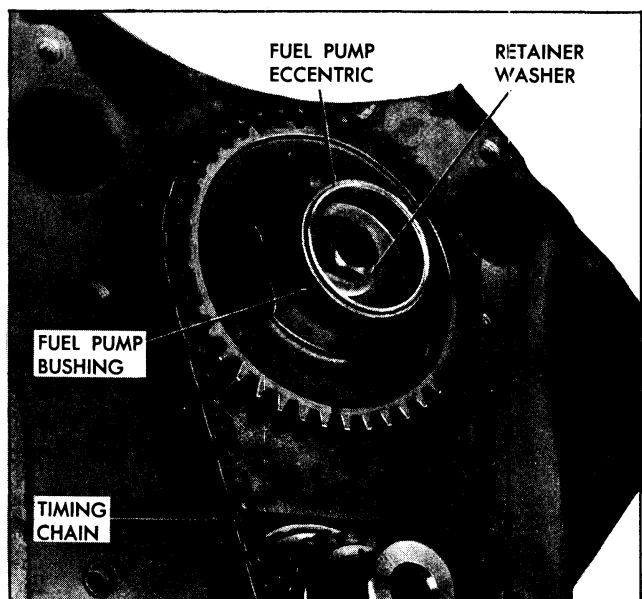

Fig. 6-46 Front of Engine with Timing Chain Cover Removed
15. If new fuel pump eccentric and bushing are to be installed, remove camshaft sprocket retainer bolt and retaining washer and remove the eccentric and bushing. Place fuel pump bushing over eccentric with rolled flange toward camshaft sprocket (Fig. 6-46).